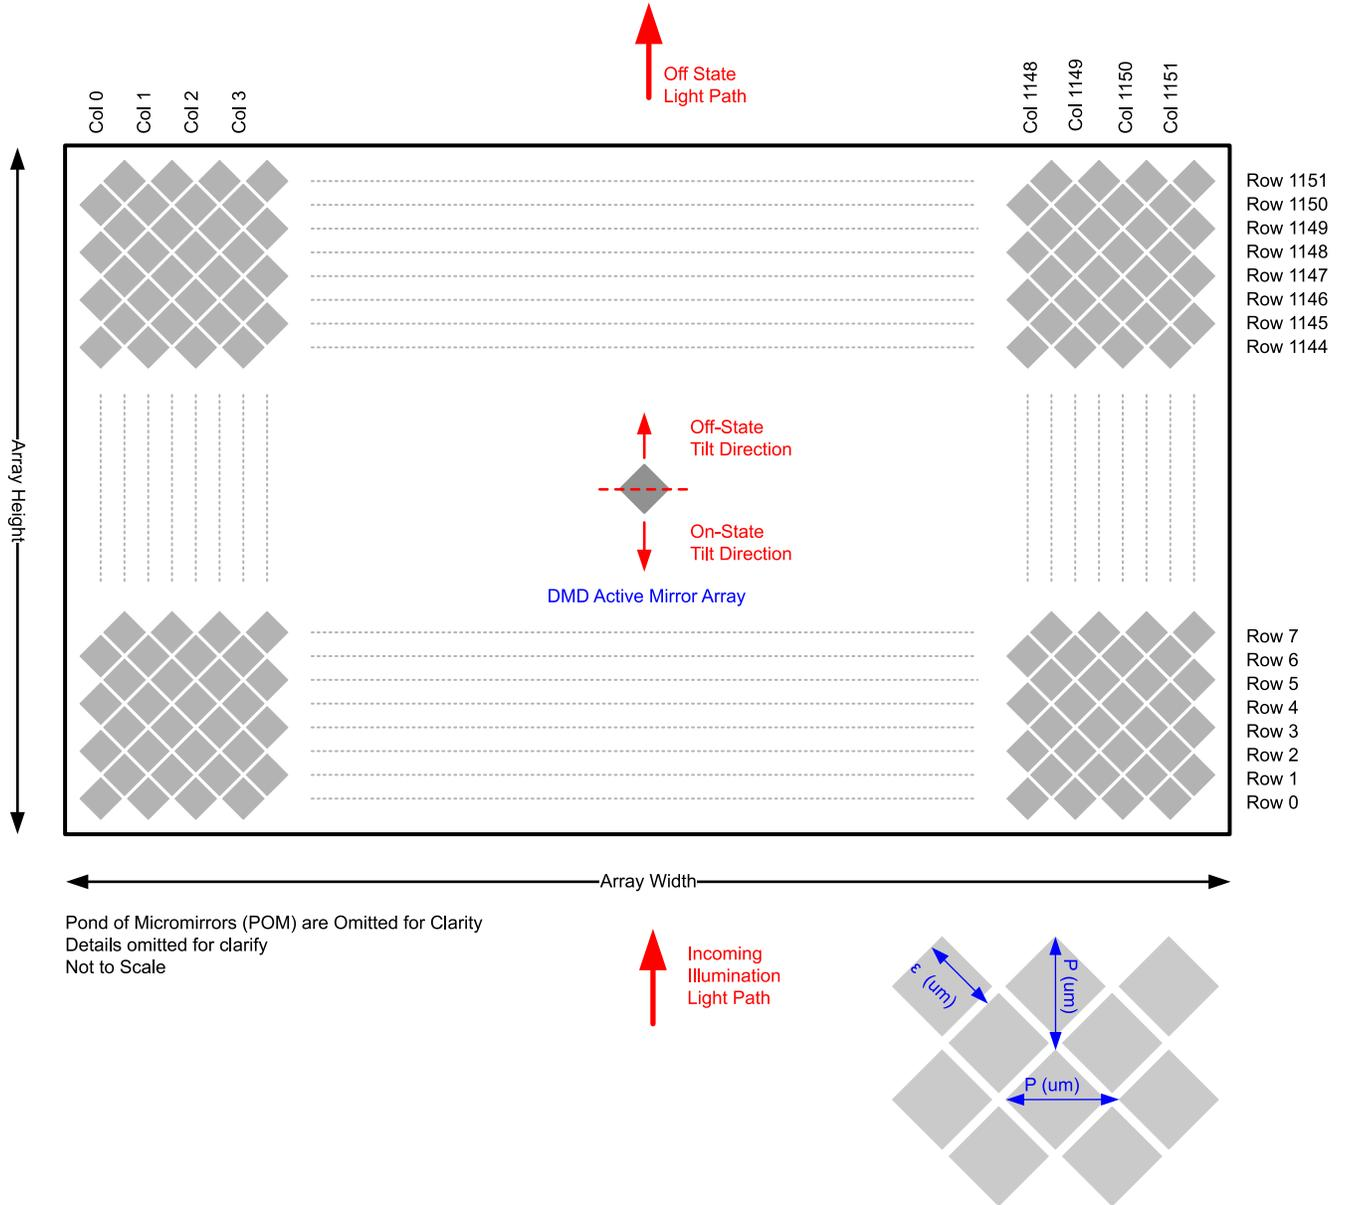

图 6-13. Micromirror Array Physical Characteristics
- (1) See 图 6-13
- (2) The structure and qualities of the border around the active array includes a band of partially functional micromirrors called the POM. These micromirrors are structurally and/or electrically prevented from tilting toward the bright or ON state, but still require an electrical bias to tilt toward OFF.
The DLP5532-Q1 Automotive DMD consists of 1,327,104 highly reflective, digitally switchable, micrometer-sized mirrors organized in a two-dimensional array. As shown in Figure 6-13, the micromirror array consists of 1152 micromirror columns × 1152 micromirror rows in a diamond pixel configuration with a 2:1 aspect ratio.